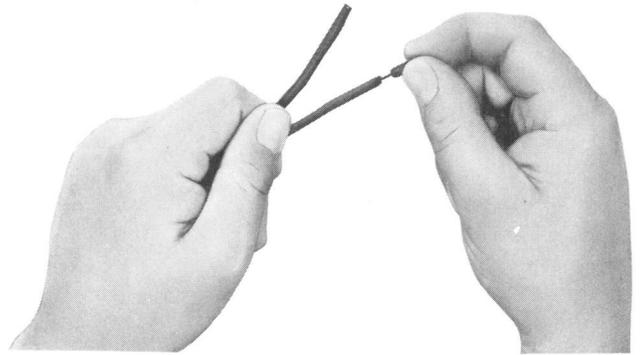

**Fig. 6—Nicking Insulation**
- (2) Using diagonal pliers, nick insulation circumferentially  $\frac{3}{8}$ -inch from end (Fig. 6). **Caution should be observed to avoid nicking or cutting through a conductor.**